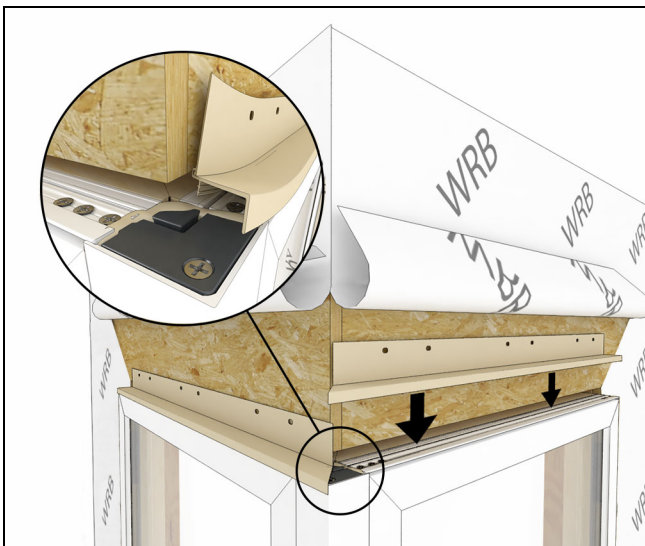

Figure 54
2. Install the drip cap. The barbed leg of the drip cap seats into the head jamb corner cap. See Figure 54.